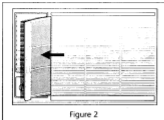

Figure 2
- 6-way louver models have a slide out filter. Grasp the formed handle of the filter and pull it to the left, removing it from the front panel (Figure 2).